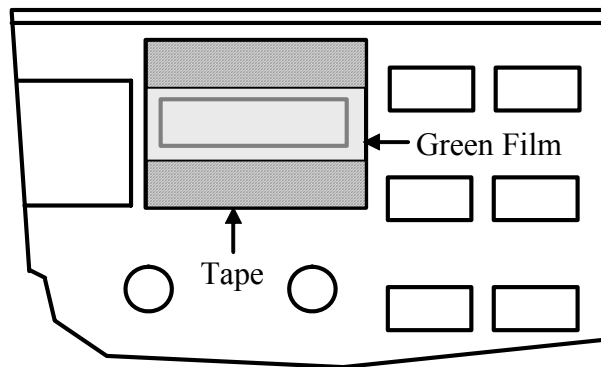

Figure 5-14
- ❑ Remove the brown paper backing from the other side of each piece of tape, then turn the filter/tape assembly adhesive-side down. Carefully center the green plastic filter over the *inside* of the bargraph LED hole (Figure 5-14).